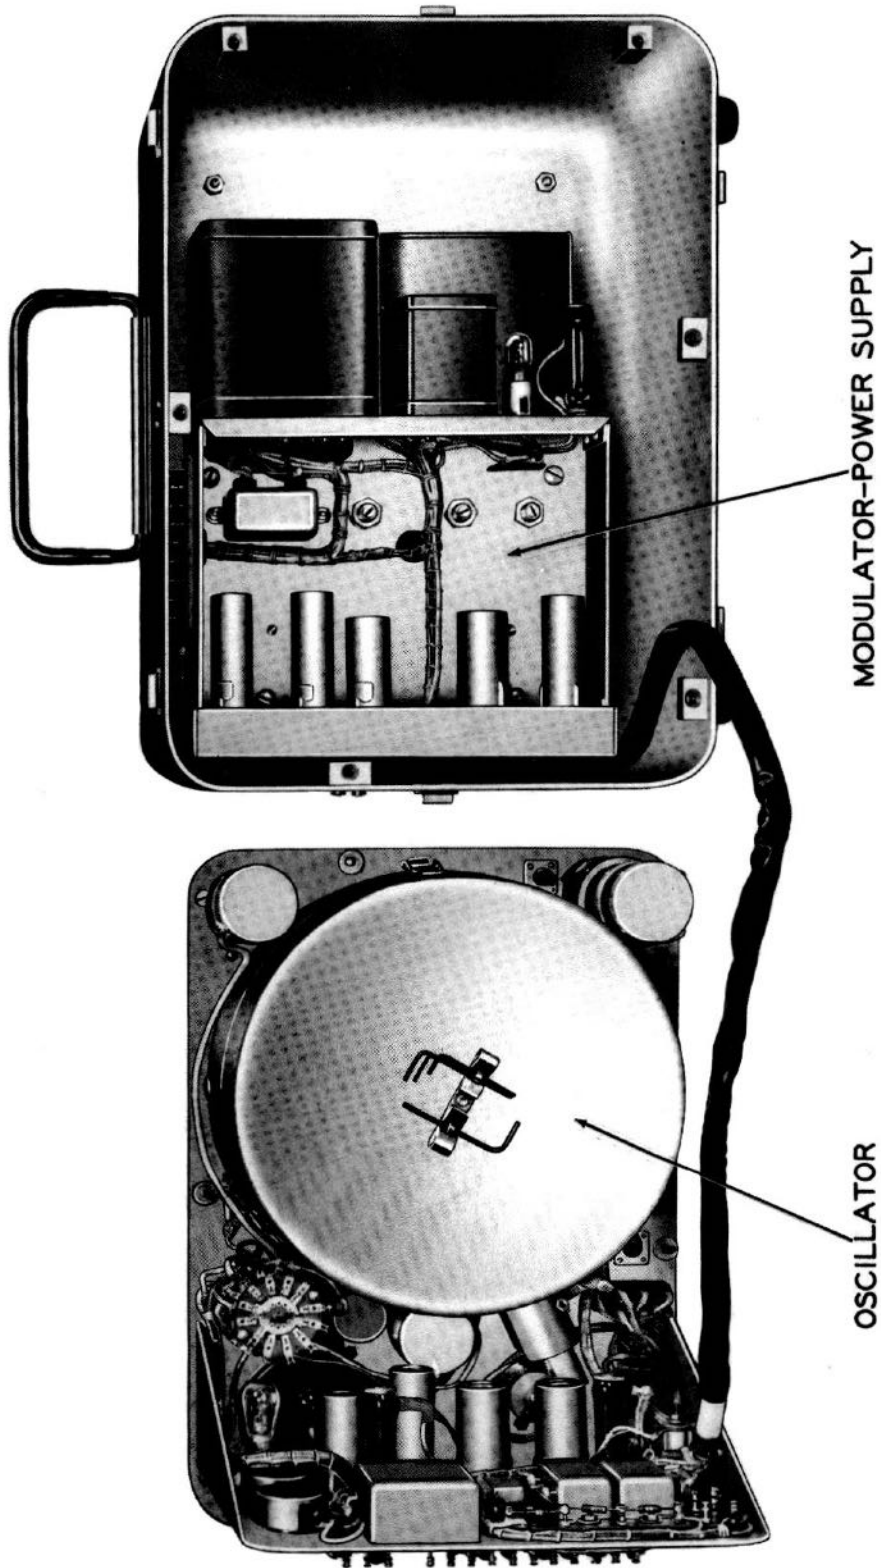
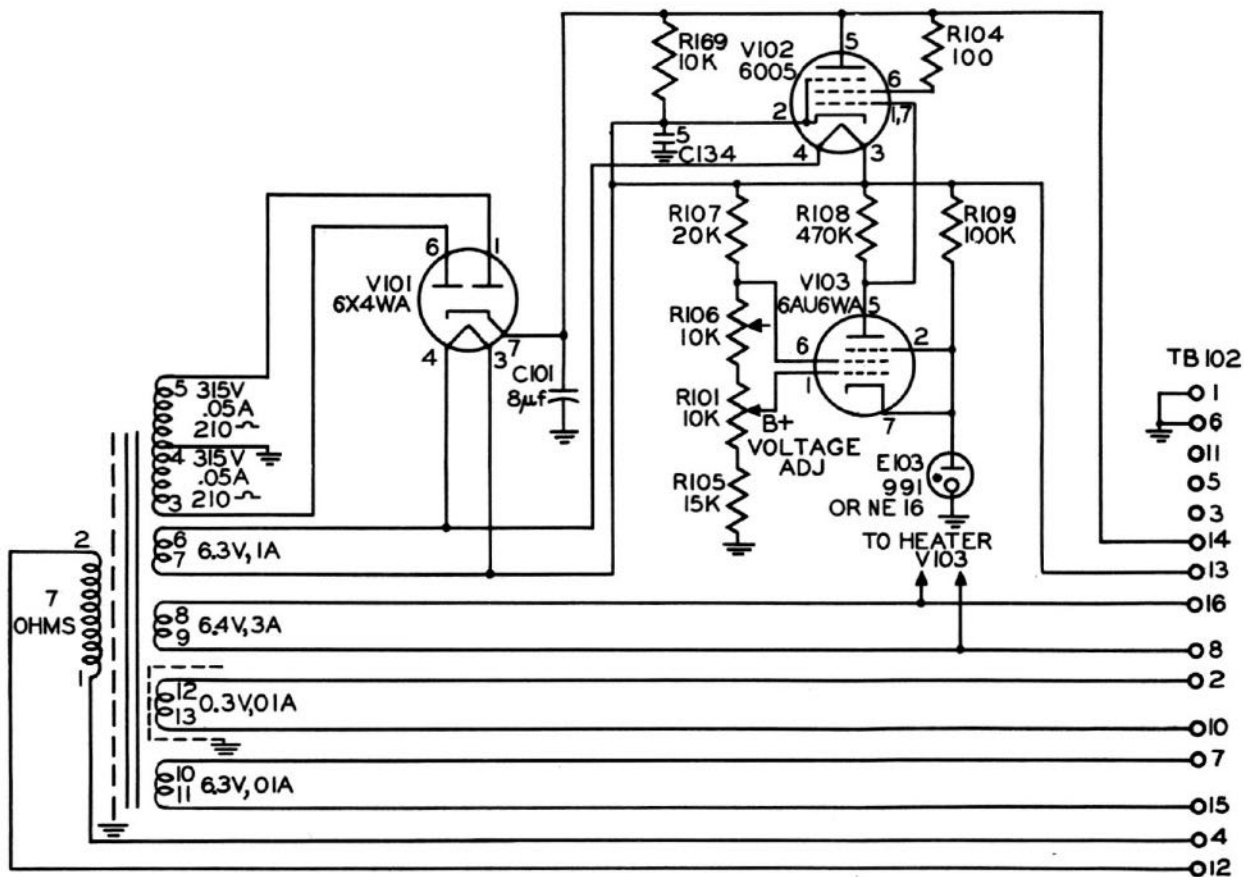

Figure 2-2. RF Signal Generator SG-45A/URM-26, Interior
Figure 2-3. RF Signal Generator SG-45A/URM-26, Functional Schematic Diagram, Power Supply
a. The power supply employs a conventional electronic tube rectifier V-101 to produce the direct current plate potential (B voltage) for all tubes. An electronic voltage regulator consisting of tubes V-102, V-103, and lamp E-103 maintains a substantially constant plate potential for the RF oscillator and modulator circuits, and also for the associated monitoring circuits. The power supply is assembled together with the modulator on a separate chassis as shown in figure 2-2. A functional schematic of the power supply is shown in figure 2-3.